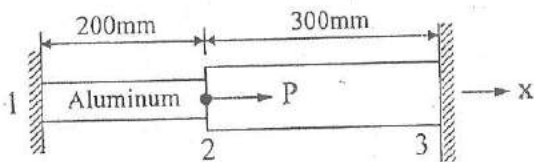

Figure 4
8. (a) At 20°C an axial load $P = 300 \times 10^3 \text{ N}$ is applied to the rod as shown in Figure 4. The temperature is then raised to 60°C . Assemble the element stiffness matrix and the element temperature force matrix (F). Again determine the nodal displacements and element stresses by considering linear and Quadratic Shape functions. Also find element strains.